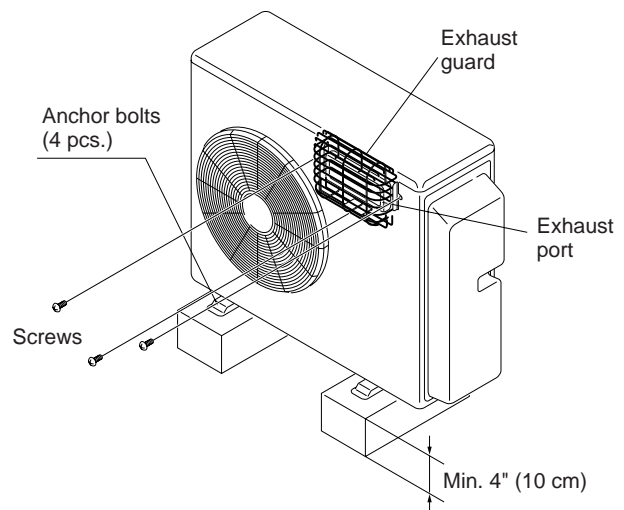

Fig. 5b
- provide a solid base (level concrete pad, concrete block, 4 in. × 16 in. (10 × 40 cm) beams or equal), a minimum of 4 in. (10 cm) above ground level to reduce humidity and protect unit against possible water damage and decreased service life (Fig. 5b).